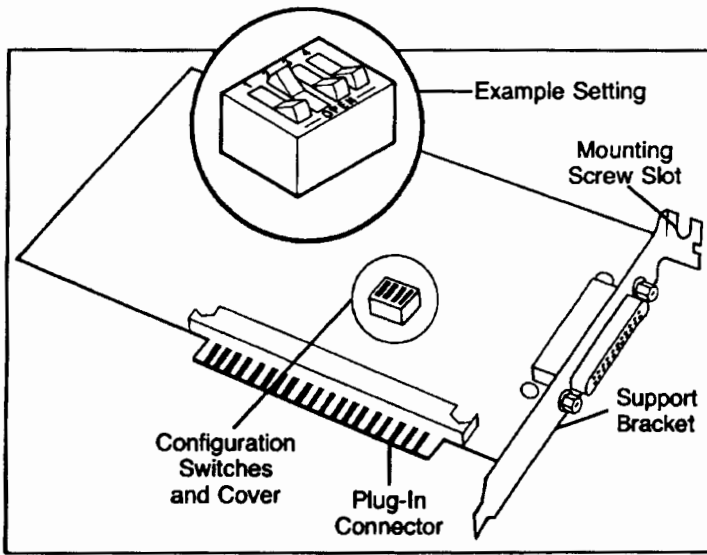

Figure 3-3. Interface Card for AT Computers
2. Find the switches on the interface card. See figure 3-3.